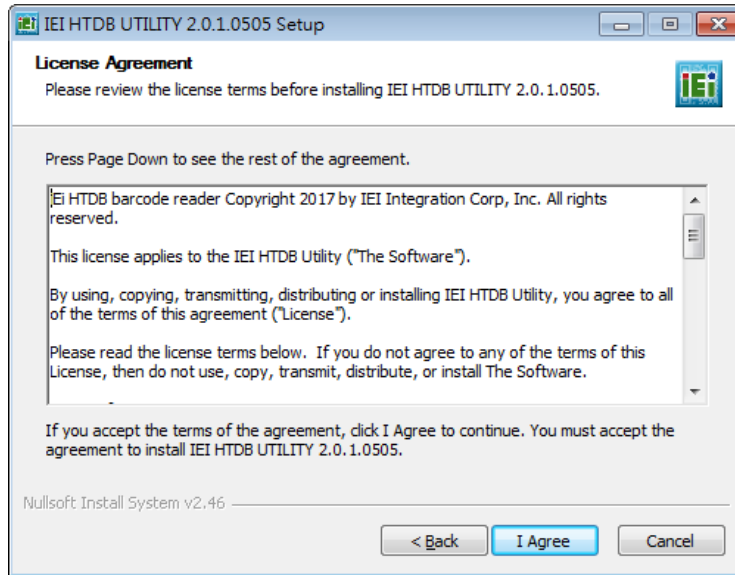

Figure 3-3: License Agreement
Step 7: The license agreement in **Figure 3-3** appears. Read the license agreement, and then click **I Agree** to continue.